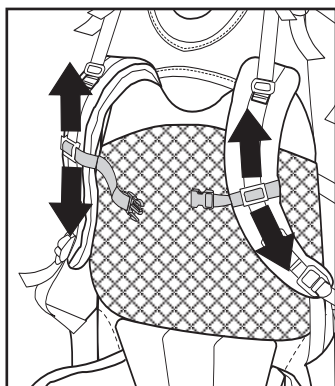

Figure 2I
E. OPTIONAL- Position the sternum strap (Figure 2I) on your chest, and pull it snug. The sternum strap should cross your chest high, just below your clavicle, so it doesn't interfere with your breathing. Some people find it more comfortable not to use the sternum strap when breathing hard—especially at altitude.